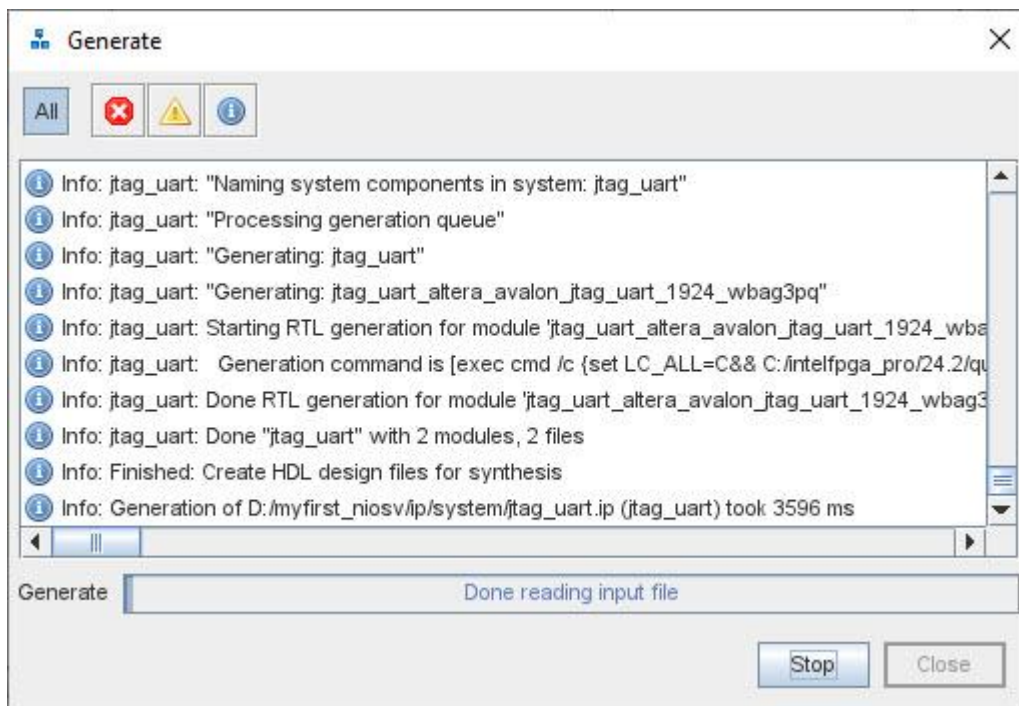
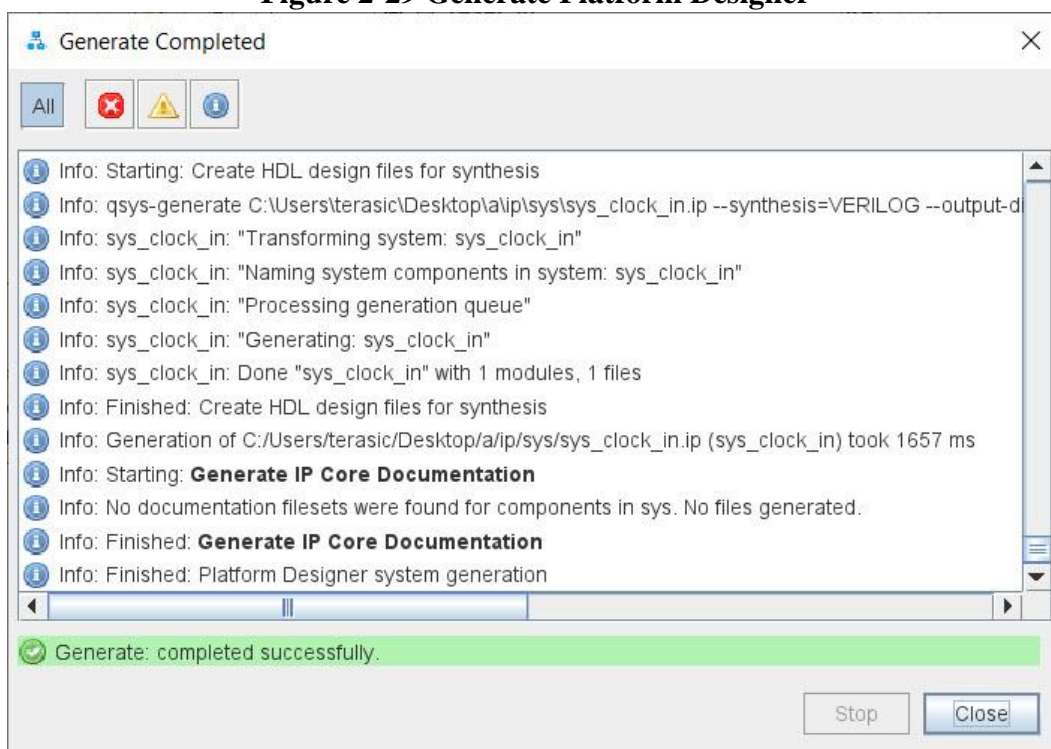

Figure 2-29 Generate Platform Designer
Figure 2-30 Generate Platform Designer Completely
4. Figure 2-29 shows the generate process. If there is no error in the generation, the window will show successful as shown in Figure 2-30.